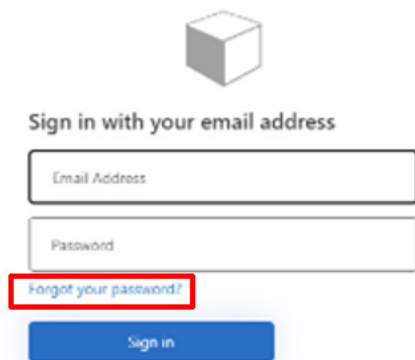

Figure 152 Click Forgot your password
- 3 The screen shown in Figure 152 appears: Click **Forgot your password**.